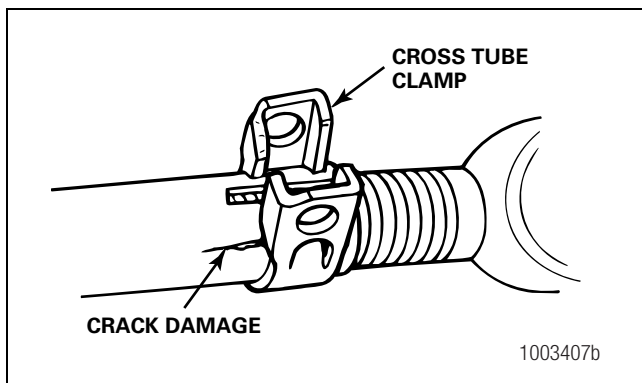

Figure 5.16
12. Inspect the cross tube and clamps for damage. Figure 5.16.